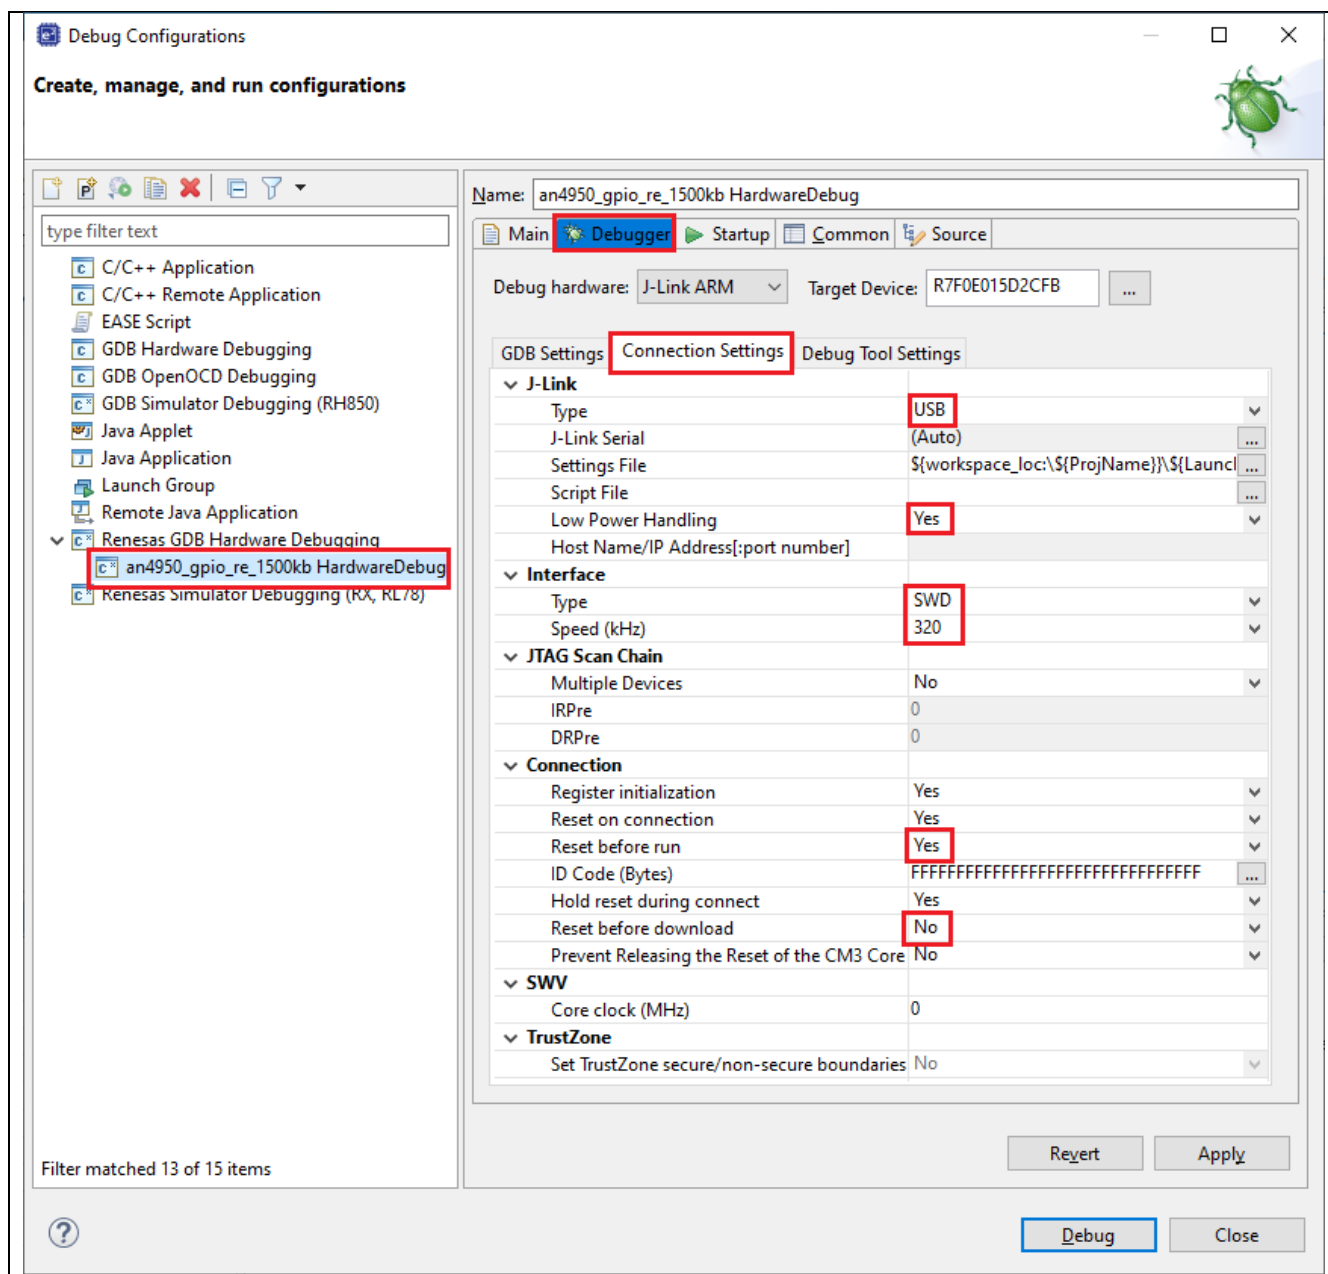

Figure 5-5 Change Connection Settings
*Note:* This debug configuration in Figure 5-5 is shown as an example. The wrong settings may cause malfunction or damage to the hardware. So, be cautious to verify the board and emulator settings before connection.